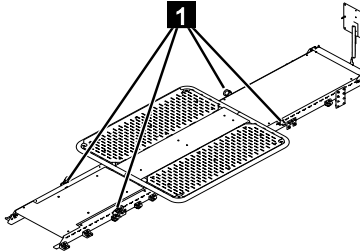

Fig. 265
1. Tighten attachment points (Fig.265/1) with the correct torque (↪Chapter 8.4.3 „Tightening torques”, on page 203) and check for damage and movability. Replace if necessary.